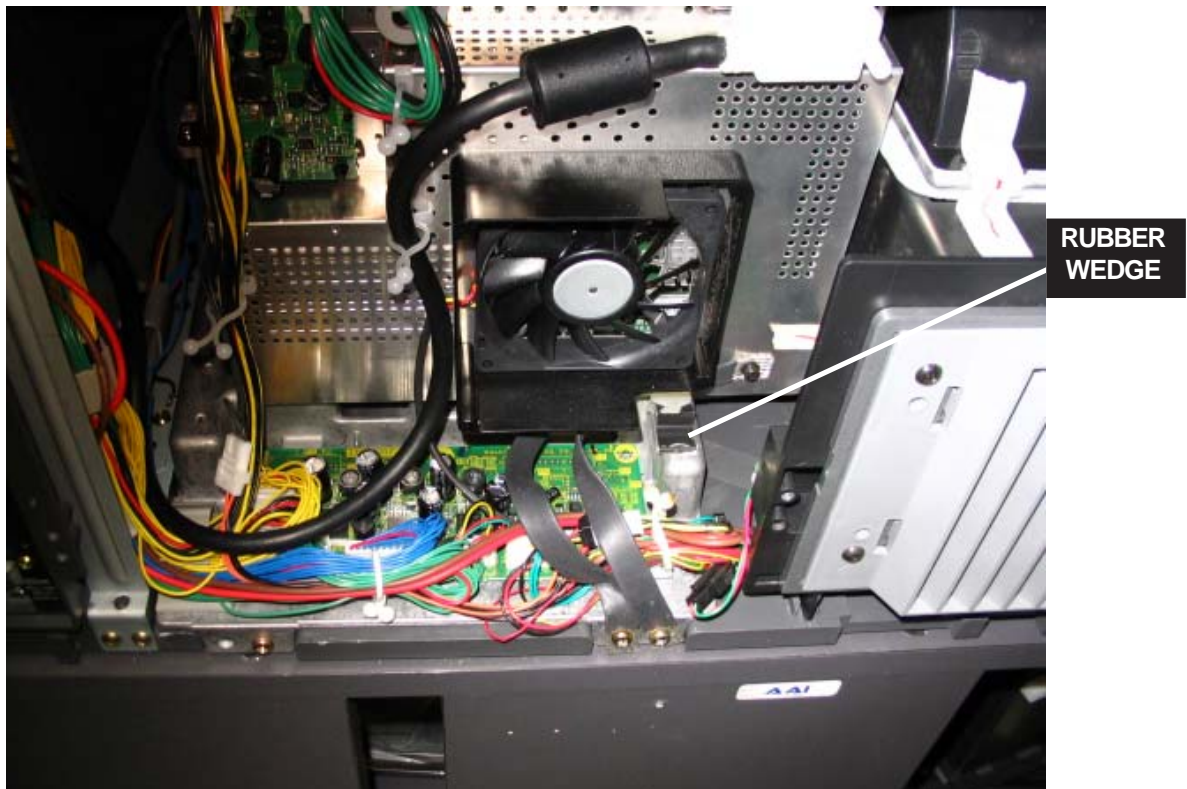

Figure 3-8: Rubber Wedge (52 and 62 inch models only)
- Remove the Rubber Wedge shown in *Figure 3-8*
- 1) Slide the rubber wedge under the Engine slowly until it makes solid contact. (*Figure 3-8 and Figure 3-11*)